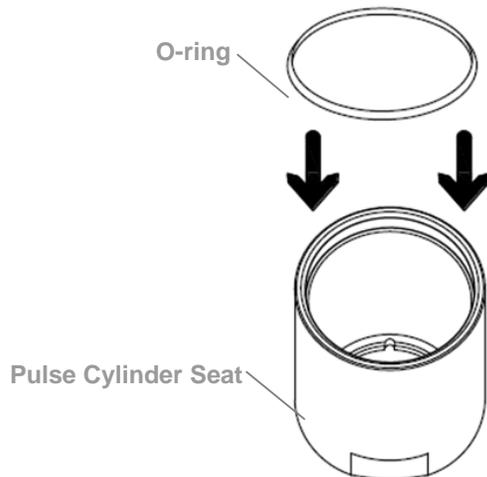
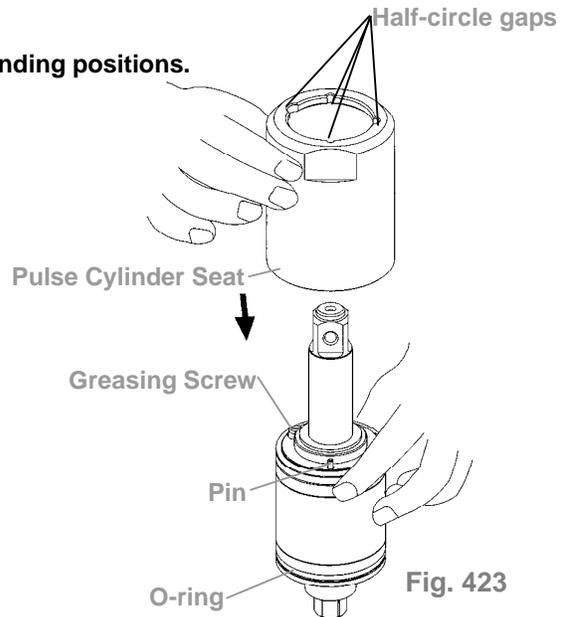

Fig. 422
Fig. 423
- ② After installing the front cover, put the o-ring on the greasing screw, then tighten the greasing screw but release it a little bit after completely tightened.
(4) Pulse Cylinder Seat and Lock Nut of Pulse Cylinder Assembly
- ① Place the o-ring inside the bottom of the pulse cylinder seat, then combine the pulse cylinder seat with the assembled pulse cylinder unit. (Fig. 422, Fig. 423)